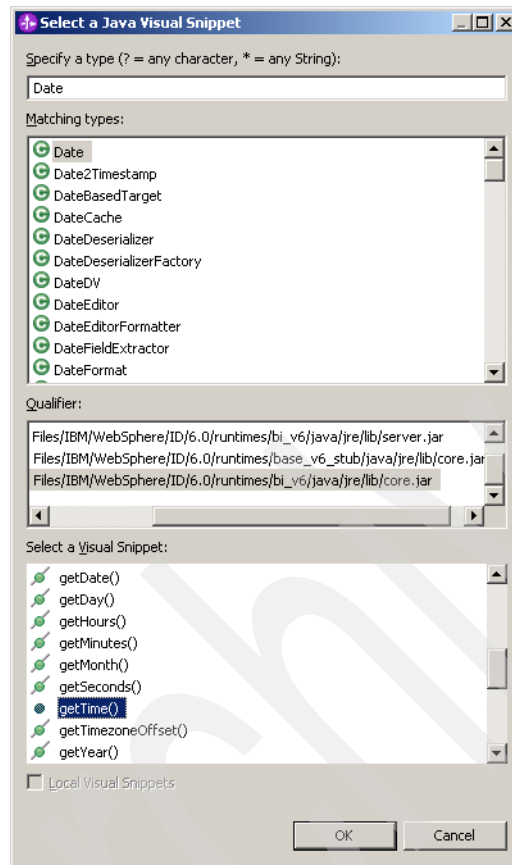

Figure 2-30 Select method
17. Drop it in the *choice* space and it will create the `getTime` icon. This `getTime` will convert the date to milliseconds (Figure 2-30).